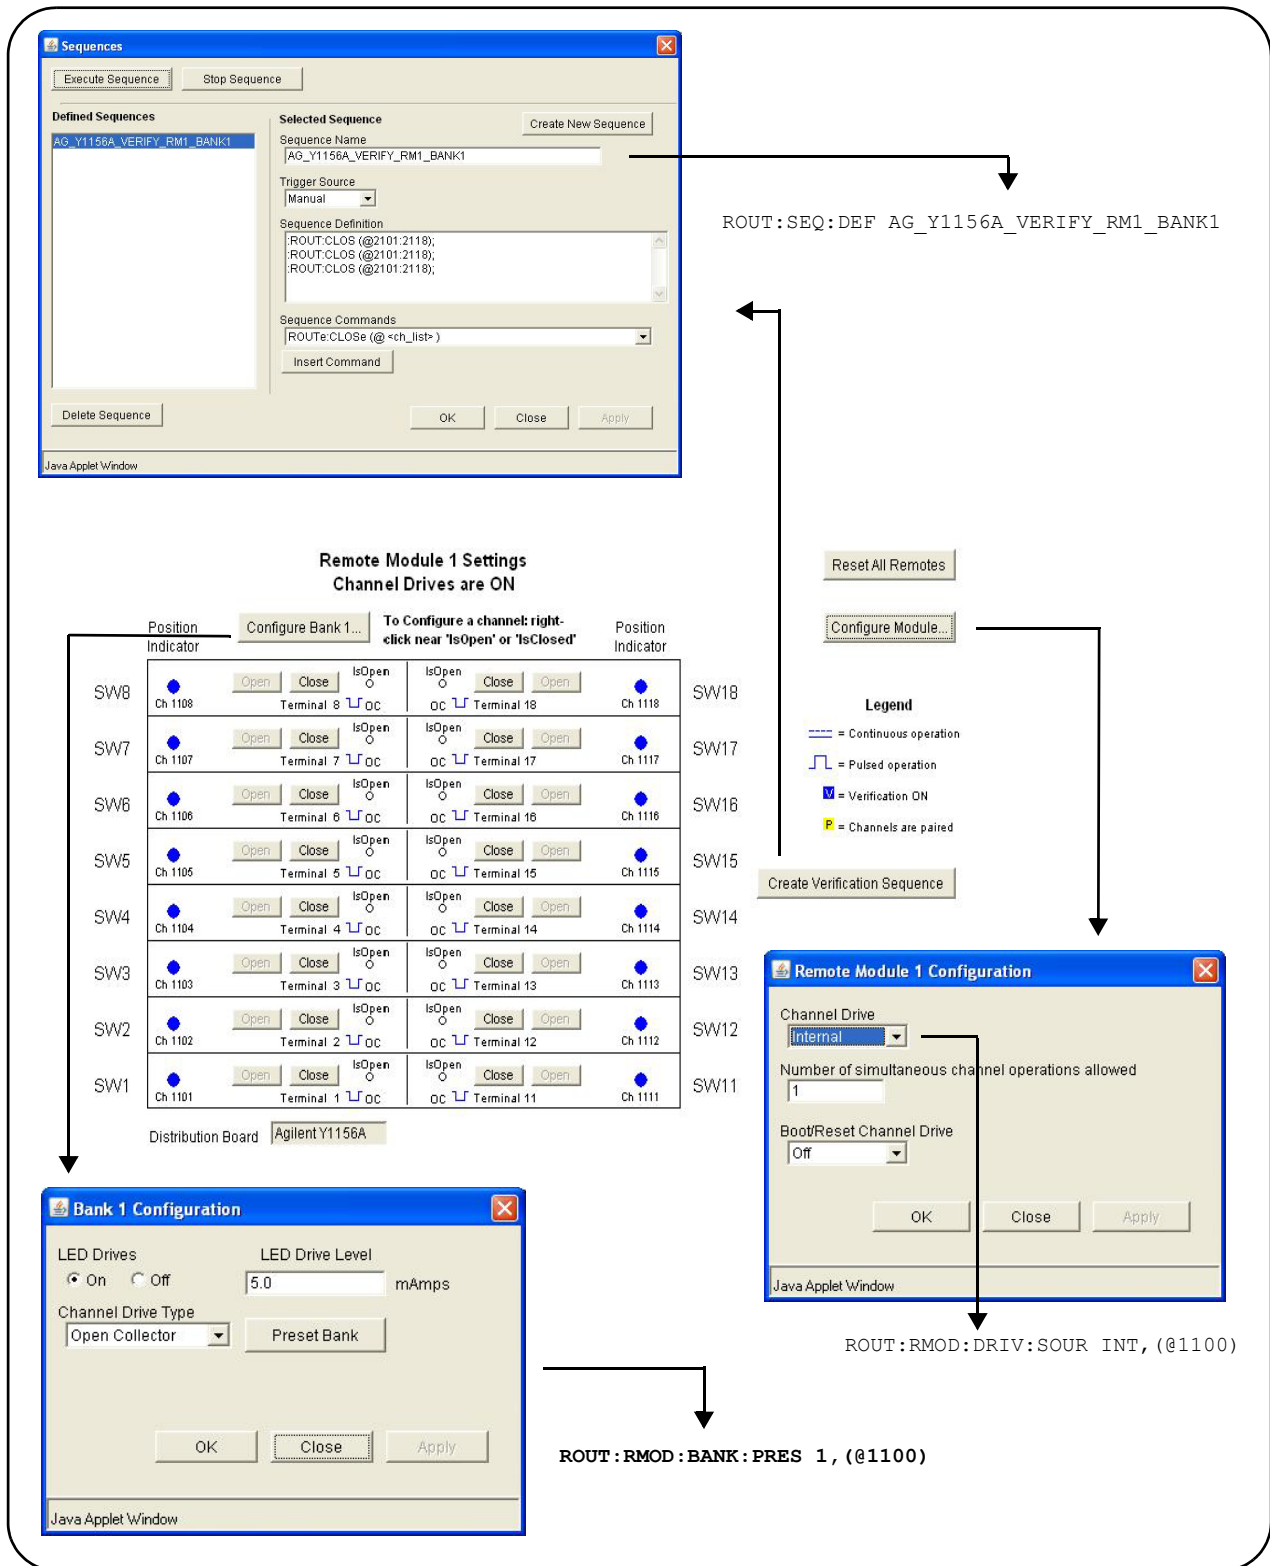

Figure 4-8. Running the Y1156A Verification Sequence.
- 4 Select 'Allow Full Control' and in the 'Browser Web Control' window, locate the bank and Y1156A programming diagram. An example of the diagram is shown in Figure 4-8.